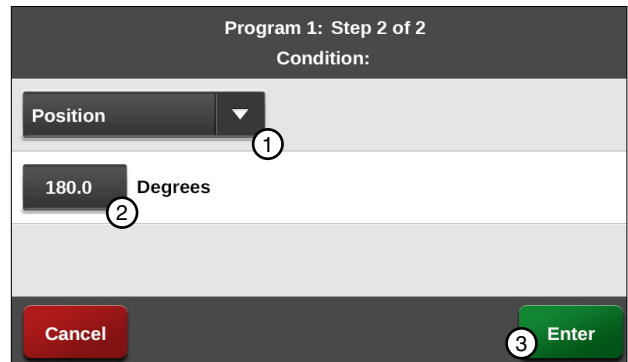

Figure 109-1 1. Position Condition 3. Enter
5. Program the position condition for this step. Refer to Figure 109-1.